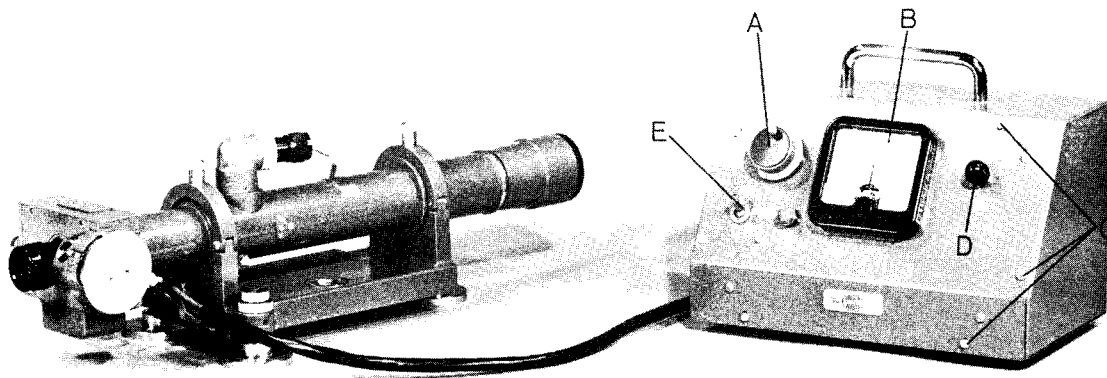
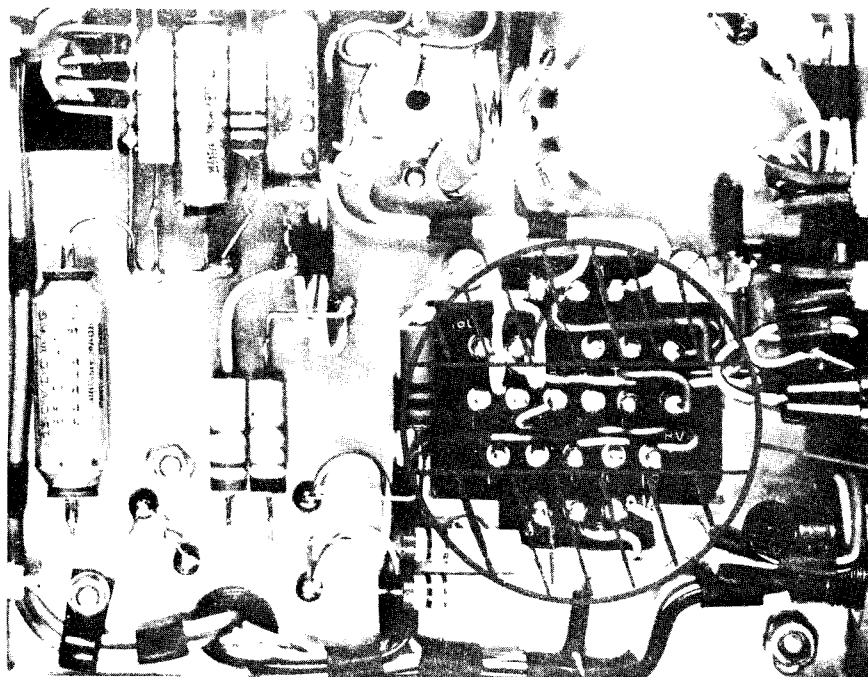

FIG. 1
FIG. 2
The Photo-electric Microptic Auto-collimator comprises a telescope and base unit similar to the all-optical instrument but is fitted with a micrometer eyepiece embodying a photo-electric detector. A special lamp house incorporating a pre-focus holder and an electrical display unit are also provided. Fig.1.
provides a power supply to the vibrator, amplifier and lamp, a bias voltage to the photocell and a reference signal to the discriminator circuit. The controls of the unit have been confined to a minimum - an on-off switch, sensitivity control and vibrator amplitude adjustment (Fig.1 refers).
1. Examine display (amplifier) unit to ensure that the connections from the mains to the transformer are wired to suit the power supply; remove the six chassis securing screws from the front of the unit (see Fig.1) and pull out the chassis from its metal case. Mounted on the underside of the chassis will be seen the terminal block of the transformer (see Fig.2). This should be wired in accordance with the appropriate diagram shown in Figs. 3 and 4 to match the power supply voltage.